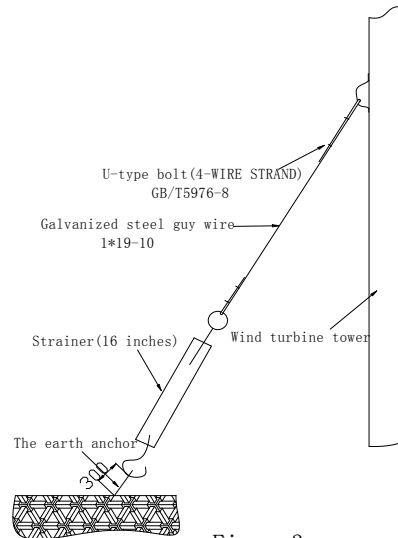

Figure3
**Figure 3 wind turbine decomposition**